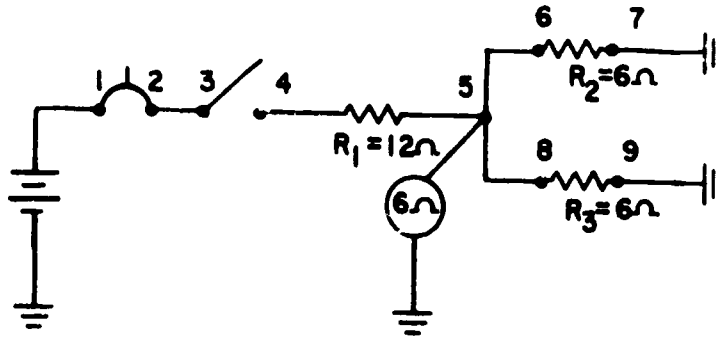

Figure 1.
- 3. An ohmmeter connected at point 4 in figure 1 would read 12 ohms.